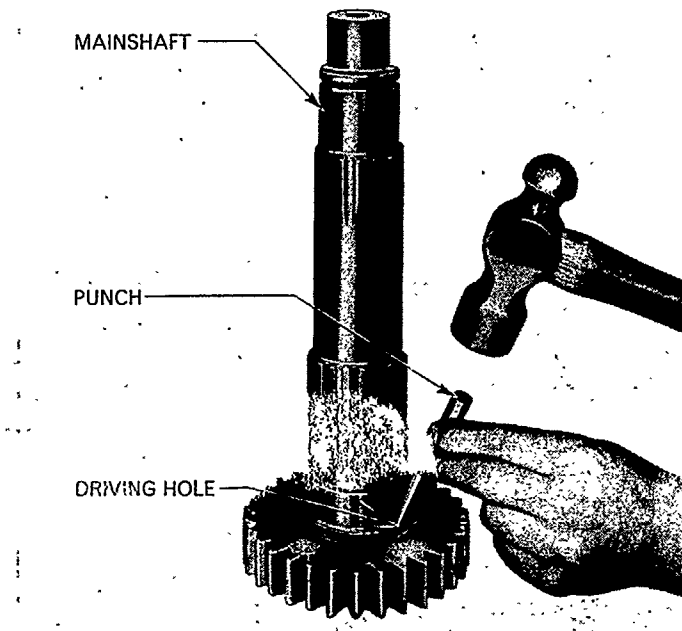

Figure 45
3. If necessary remove the output shaft pilot bearing cup from the mainshaft. Use a suitable small punch located through the holes provided in the mainshaft gear, Figure 45, and drive the cup from its location with a hammer.